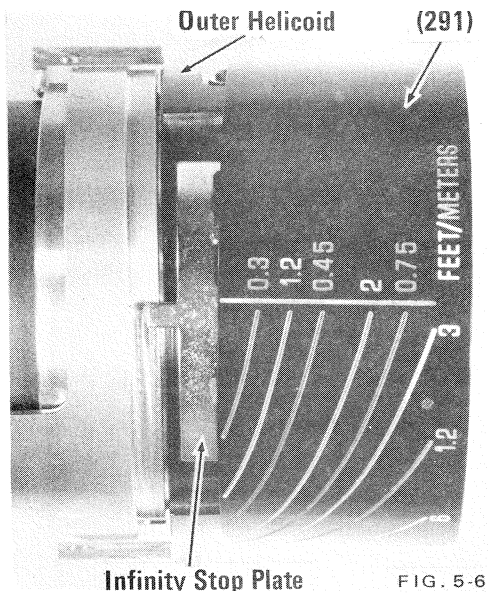

FIG. 5-6
- a) With the helicoids set as instructed in 5.3c, slide index ring (291) onto the rear of the helicoid so that the near focus index line approximately aligns with the tip of the infinity stop plate. Fig. 5-6.